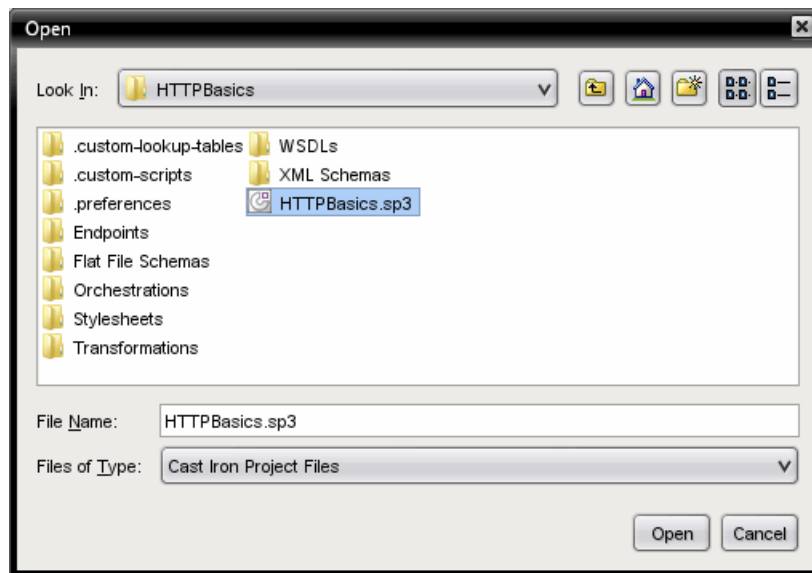

Figure 6-11 Open the .sp3 file
7. Select the .sp3 file in the extracted folder, and click **Open**, as shown in Figure 6-11.